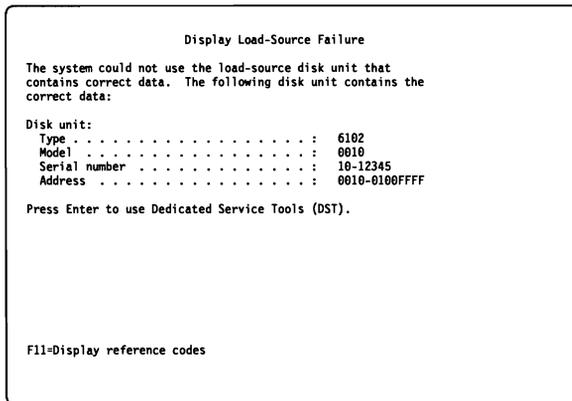

Figure 3-19. Display Load-Source Failure
**Display Load-Source Failure:** If you see the display shown in Figure 3-19, the system has determined that the load-source disk unit with mirrored protection does not have the correct level of data.